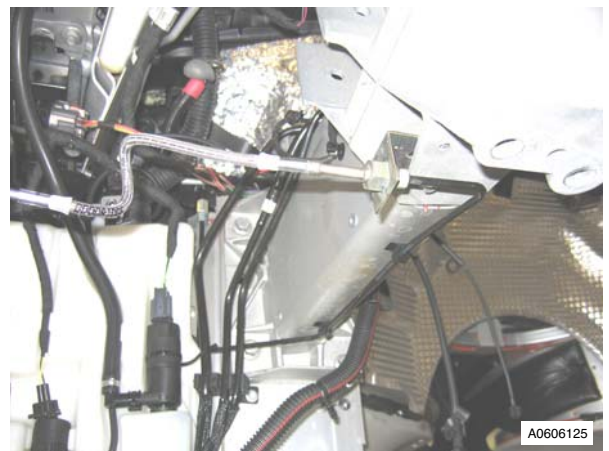

Fig. 2
9. Disconnect RH front brake tube union from front brake tube in-line connection (see Fig. 2).